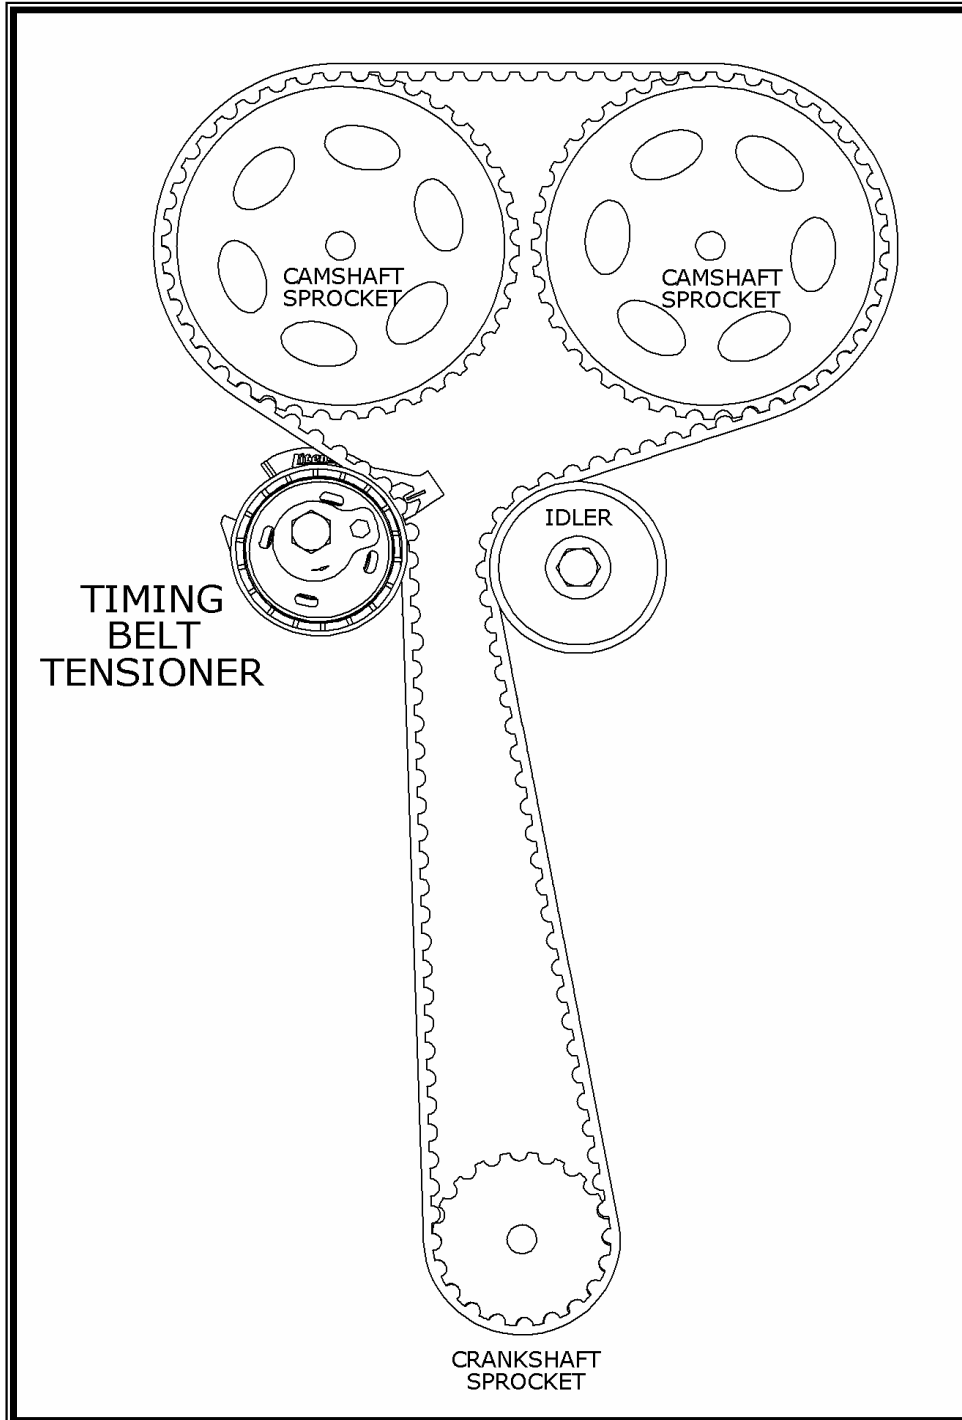

Figure 1: Timing Belt Layout for Ford's ZETEC 2.0L DOHC
7. Install the timing belt being careful to engage the appropriate teeth of all the corresponding sprockets as per drive layout (see Fig.1) starting with the crankshaft and working counterclockwise only. Ensure that the belt is tight between the corresponding sprockets.